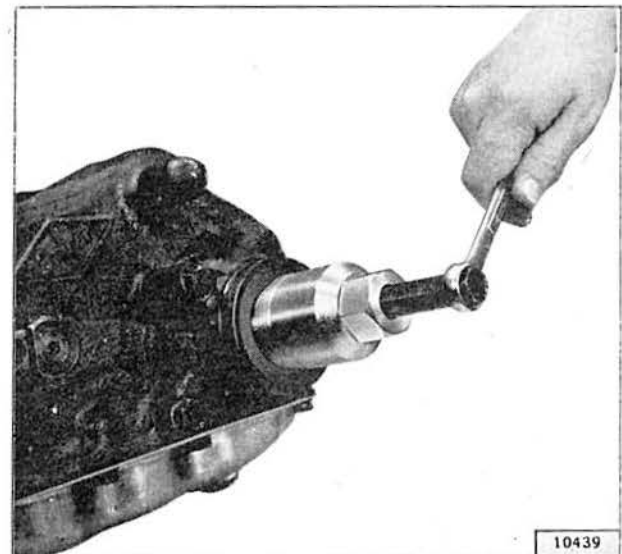
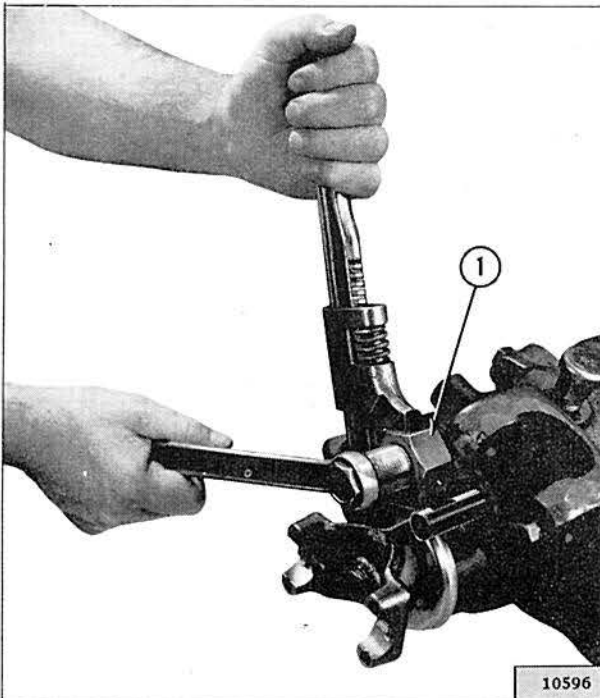

FIG. 205—PULLING OUTPUT SHAFT OIL SEAL
FIG. 206—SHIFT ROD OIL SEAL PULLER
b. Remove yoke oil seal with Tool W-251, as shown in Fig. 205. Remove shift rod oil seals with Tool W-176, as shown in Fig. 206.
- Remove the oil seal with Tool W-251, as shown in Fig. 205.